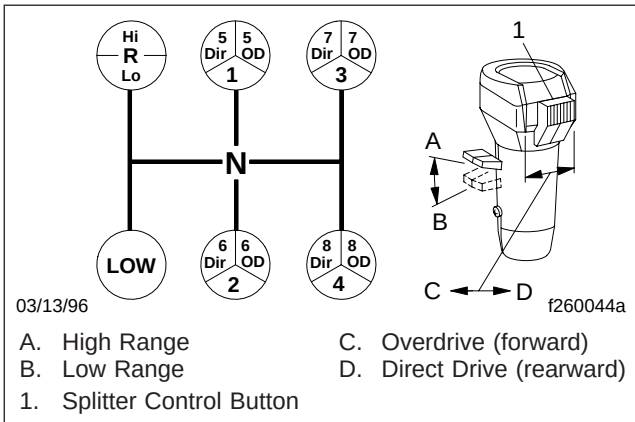
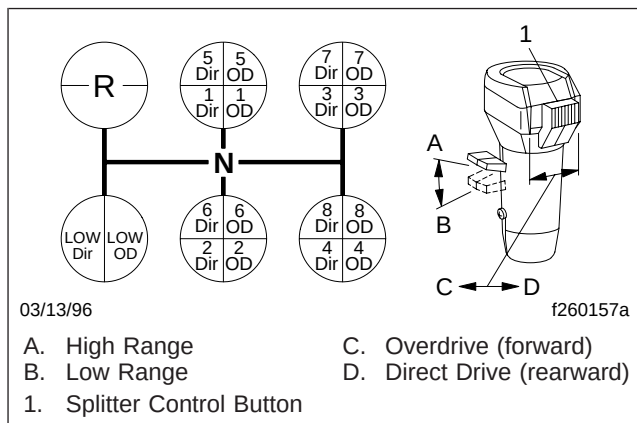

Fig. 8.7, Eaton Fuller 13-Speed Transmission Shift Pattern
Fig. 8.8, Eaton Fuller 18-Speed Transmission Shift Pattern
Eaton Fuller 13-speed transmissions have thirteen forward speeds and two reverse speeds. Each transmission consists of a 5-speed front section, and a 3-speed auxiliary section. The auxiliary section contains low- and high-range ratios, plus an overdrive splitter gear. See Fig. 8.7 for the shift pattern.
2. Position the range preselection lever down, into low range. See Fig. 8.7 or Fig. 8.8.
3. Make sure the splitter control button is in the direct (rearward) position. See Fig. 8.7 or Fig. 8.8.
To shift from low direct to low overdrive, move the splitter control button (Fig. 8.8) into the overdrive (forward) position, then immediately release the accelerator. Press and release the clutch pedal. After releasing the clutch, accelerate again.
Shift upward from low to 1st gear, 2nd, etc. until 4th gear, double-clutching between shifts, and accelerating to 80 percent of engine governed speed. See Fig. 8.7.
Shift upward from low overdrive to 1st direct by first moving the splitter control button into the direct (rearward) position (Fig. 8.8). Move the shift lever, double-clutching, to the 1st gear position.
To shift from 5th direct to 5th overdrive, move the splitter control button (Fig. 8.7) into the overdrive (forward) position, then immediately release the accelerator. Press and release the clutch pedal. After releasing the clutch, accelerate again.
To shift from 5th direct to 5th overdrive, move the splitter control button (Fig. 8.8) into the overdrive (forward) position, then immediately release the accelerator. Press and release the clutch pedal. After releasing the clutch, accelerate again.